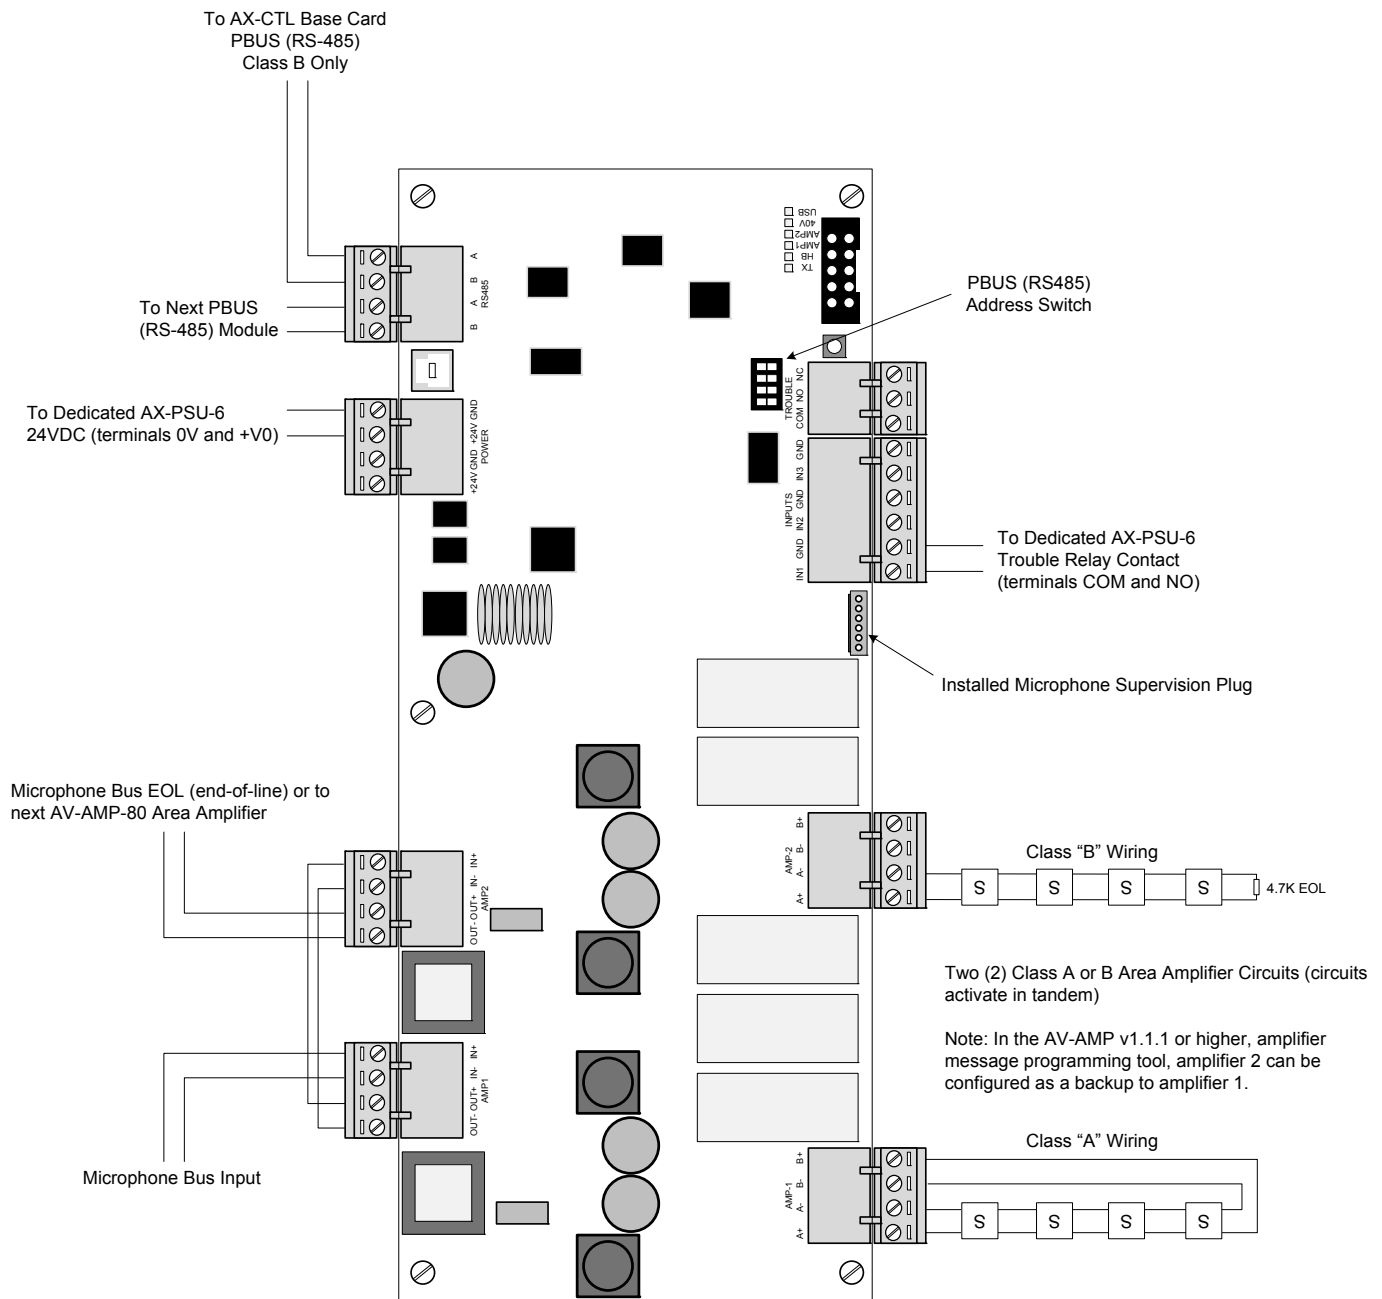

Figure 23 – Floor (Area) AV-AMP-80 Amplifier
When configured as a PBUS (RS485) amplifier the AX-CTL-1L, AX-CTL-2 and AX-CTL-4 intelligent fire alarm control panel's optional amplifier would be programmed as a PBUS (RS485) floor [area] (see figure 23). Floor (area) amplifiers can support up to sixteen (16) field programmable messages (refer to Axis^{AX} AV-AMP Audio Message Programming Manual regarding message programming) which can be tailored to meet specific installation messaging demands; such as alarms, alerts, warnings, mass notification and other event messaging requirements. Messages can be automatically activated (with programmable prioritization) or manually activated based on installation needs. Identical messages played simultaneously throughout a facility via multiple AV-AMP-80 floor (area) amplifiers can be programmed for complete synchronization, avoiding any broadcasting message confusion. In addition, multiple synchronized messages can be broadcasted when installation demands require this functionality (i.e.: alarm message to fire floor, floor above and below, alert message to the remainder of the facility).